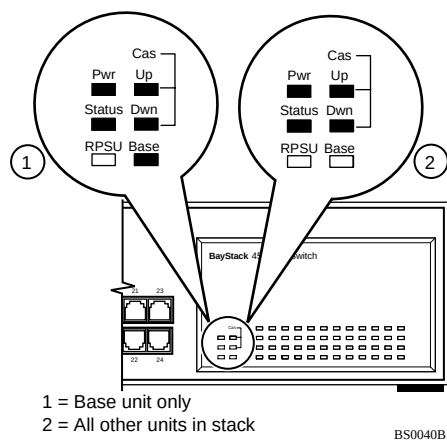

**Figure 13. Verifying the Installation**
When installation is complete and power is applied to the stack configuration, check to see that the following LED indications are displayed on the switch LED display panels for all units configured in the stack (Figure 13):
- If the LEDs on any of the units in the stack are not as shown in Figure 13, cycle the power to the stack and verify the LEDs. Refer to your switch's *User Guide* to set up the stack and for detailed information about stacking, including troubleshooting.